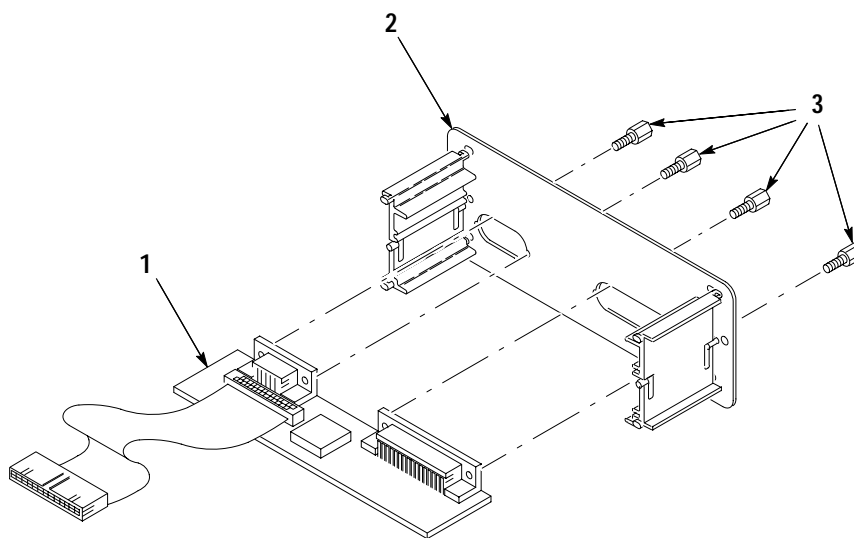

Figure 6–15: Remove Circuit Board From Assembly
- a. Using a 3/16-inch nutdriver, remove the four lock connectors (number 3 in Figure 6–15) securing the circuit board to the rear plate.